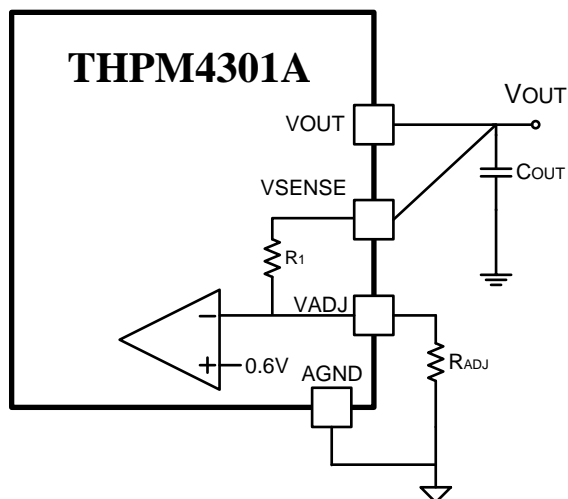

Fig. 15 Output Voltage Setting
VADJ (D8)	Output voltage adjustment pin . Connect a resistor, R _{ADJ} , between VADJ pin and AGND pin to set the desired output voltage, as shown in Fig. 15.
The output voltage of THPM4301A can be adjusted from 0.6V to 3.6V using an external resistor between VADJ pin and AGND pin, as shown in Fig. 15. The required resistor value R_{ADJ} can be calculated using equation (1).
where $R_1 = 20k\Omega$ and V_o is the desired output voltage in Volts. For best set-point accuracy, it is recommended to use a 0.1% tolerance resistor. [Note: R_1 is internal to the module as shown in Fig. 15].